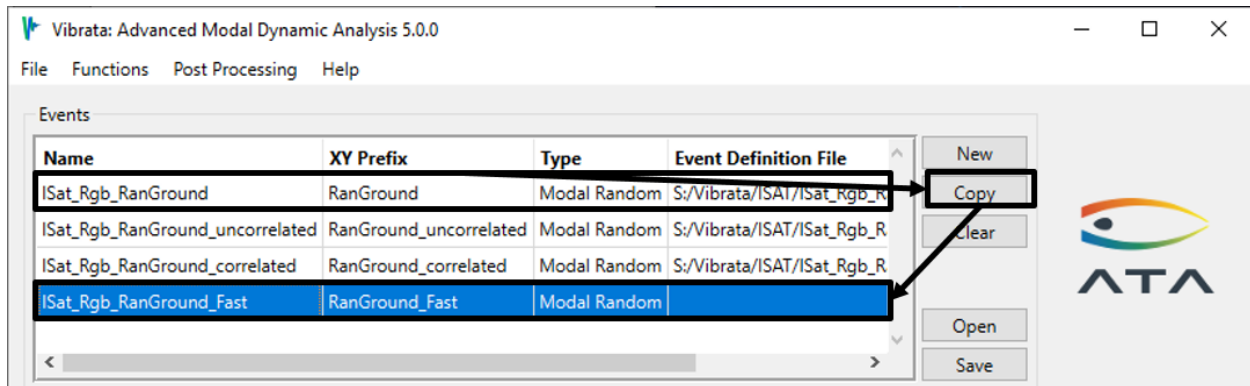

Figure 4-68. Copy the original rigid-base event; the new one will use FastRMS contour calculations.
1. In the Event Manager, copy the original rigid-base event from section 4.3.2 using the **Copy** button and then assign a new name to the new event (Figure 4-68).